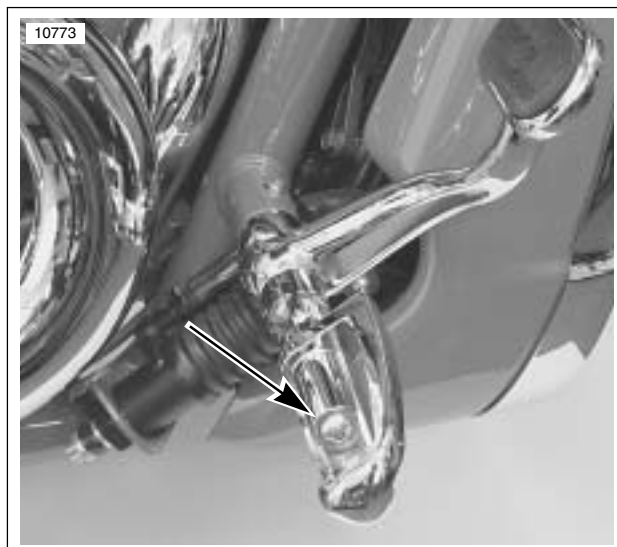

Figure 7-9. Footrest Adjustment Screw
2. See Figure 7-9. Loosen footrest adjustment screw. Rotate footrest assembly to desired angle. Tighten screw to 25.8 Nm (19 ft-lbs).